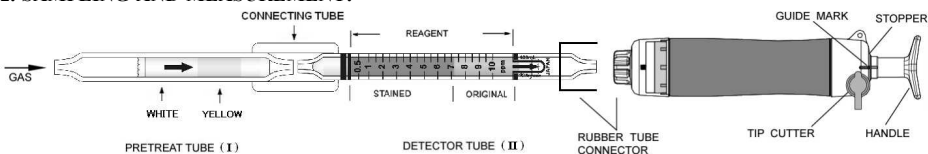

Fig.1
- ① Break both ends of the detector tube (II) and pretreat tube (I), and connect each end of the detector tube and pretreat tube with connecting tube as shown in Fig.1.
- ② Insert the detector tube into the aspirating pump securely as shown in Fig.1. (Arrow mark shall point to the pump.)
- ③ Align the guide marks on the shaft and stopper of the aspirating pump.
- ④ Pull the pump handle at a full stroke until it locks and wait for 1.5 minutes or until the completion of sampling is confirmed with the flow indicator of the pump. (See descriptions about the flow indicator in the instruction manual of the pump.)
- ⑤ On completion of sampling, read the scale at the maximum point of the stained layer.
- ① Temperature; Correct the tube reading by following temperature correction table.